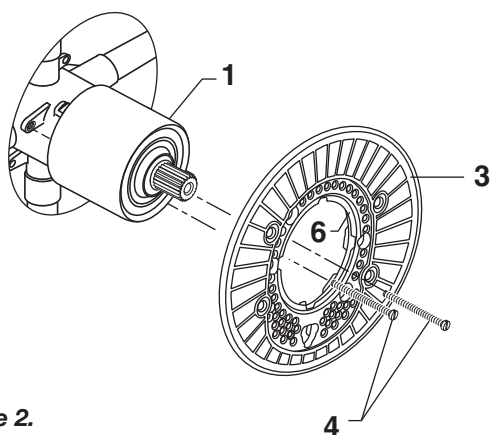

Figure 2.
- **Figure 2.** Make sure O-RING (6) is secure within ESCUTCHEON HOLDER (3). Push ESCUTCHEON HOLDER (3) onto CAP (1) and attach with LONG SCREWS (4).